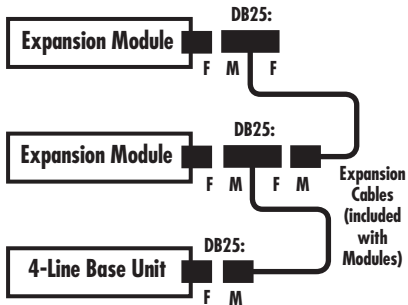

Figure 5-1. Connecting Expansion Modules to your 4-Line Manager system.
2. Use the included expansion cable to connect the Module to your Manager system as shown in Figure 5-1 on the next page. This cable is a ribbon cable with a DB25 male connector at one end and both a DB25 male and a DB25 female connector at the other end. Attach the DB25 male on the dual-connector end of the cable to the DB25 female expansion port on the back of the Module. Then attach the DB25 male on the other end of the cable to the expansion port on the Base Unit (if this is the first Module in your stack) or to the DB25 female connector on the cable attached to the previous Module's expansion port.